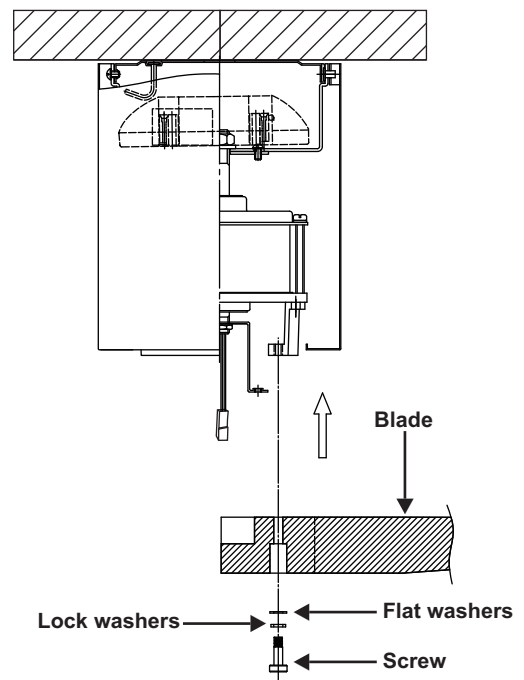

Figure 6
1. Fasten blade to motor using the flat washers, lock washers and screws supplied. (Fig. 6)